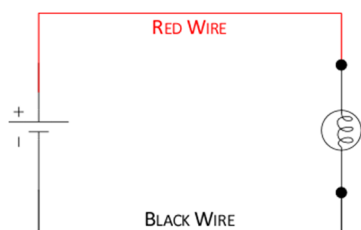

Figure 2a: Bulb circuit without meters
- Sketch the circuit diagram (**Figure 2a**) in your journal, again noting that no meters are included.